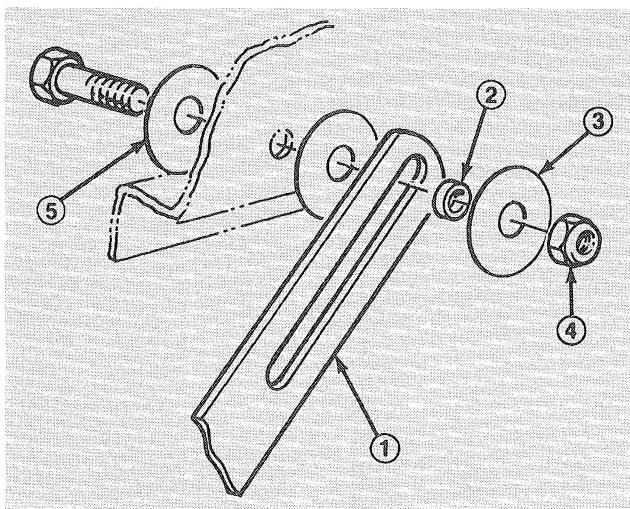

Figure 7
4. Mount hood stop, spacer, and (2) washers to each side of hood with a 5/16-18 x 7/8" lg. capscrew and locknut (Fig. 7).